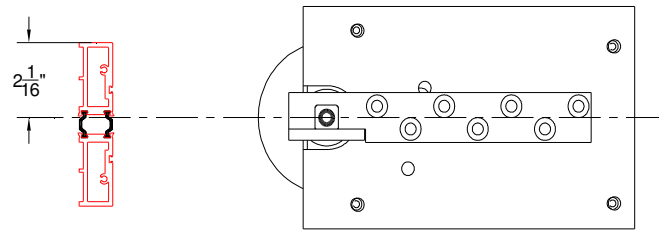

Figure 12:
1. Set the closer into the floor 2-1/16" from the back of the jamb and level (confirm with plumb line as stated in step 4). Closer is to be installed in line to the door and flush to the floor (Figure 12).